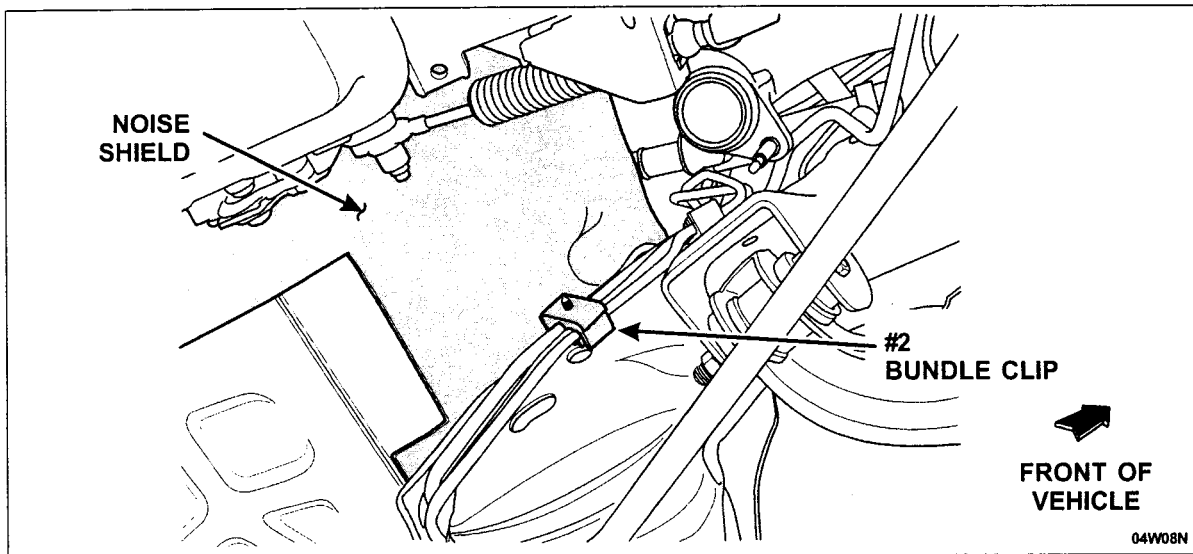

FIGURE 14
To gain access to the #2 bundle clip bolt, pull the noise shield down from between the frame rail and the floor pan and let it hang near the transmission. See Figure 14.
17. Remove the #2 bundle clip bolt. See Figure 14.